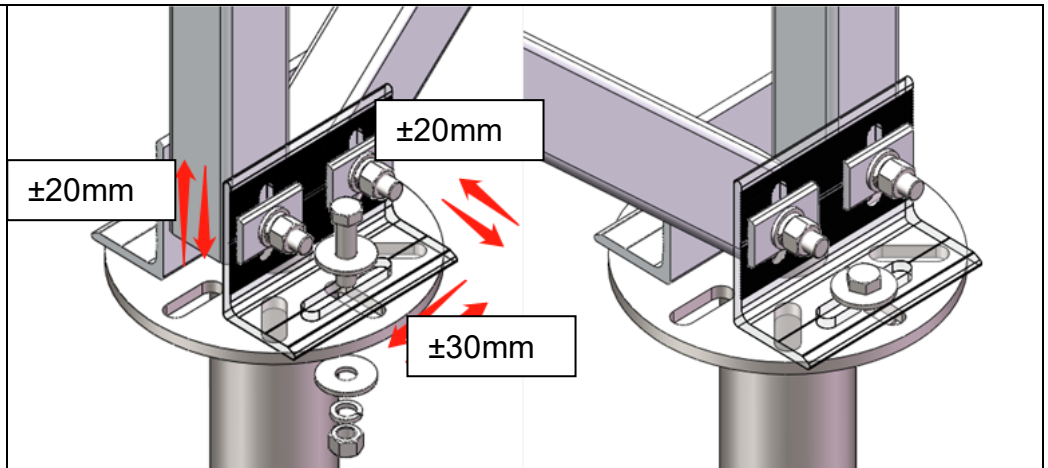

Figure 7
If cannot eliminate the deviation of Ground Screw, its maximum allowable deviation should in the range of adjustment shown in below Figure 7.
4.2.3 Put the unfolded Pre-assembled Support on flange plates of Ground Screws and lock the L-anchor Plates with flange plates with M16 bolts. The up-down adjustable range of Front/Rear leg is $\pm 20\text{mm}$. The north-south adjustable range of Front/Rear leg is $\pm 30\text{mm}$. the East-west adjustable range of Front/Rear leg is $\pm 20\text{mm}$ as shown in Figure 7